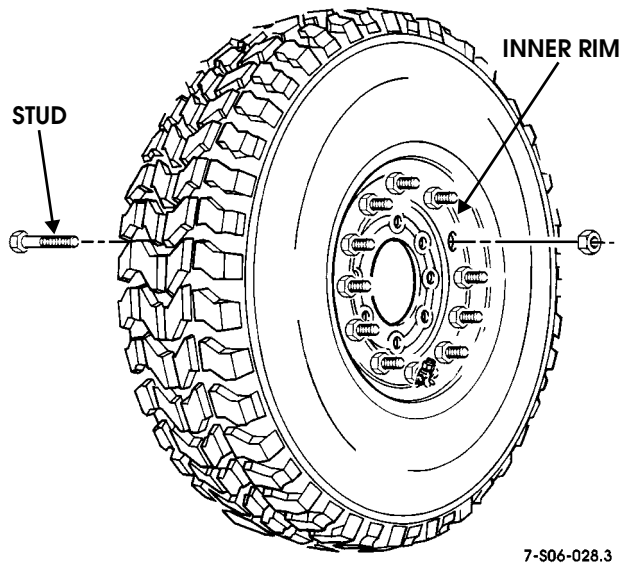

Figure 6-19: Inner Rim Stud
5. Drive studs out of inner rim. Discard studs (Figure 6-19).
2. Inspect inner rim for cracked, broken, rusted, pitted, bent, or loose studs, and studs with damaged, mutilated, or deformed threads. Replace defective parts (Figure 6-19).
1. Align stud with splines in inner rim and drive stud into inner rim until stud shoulder seats against inner rim (Figure 6-19).